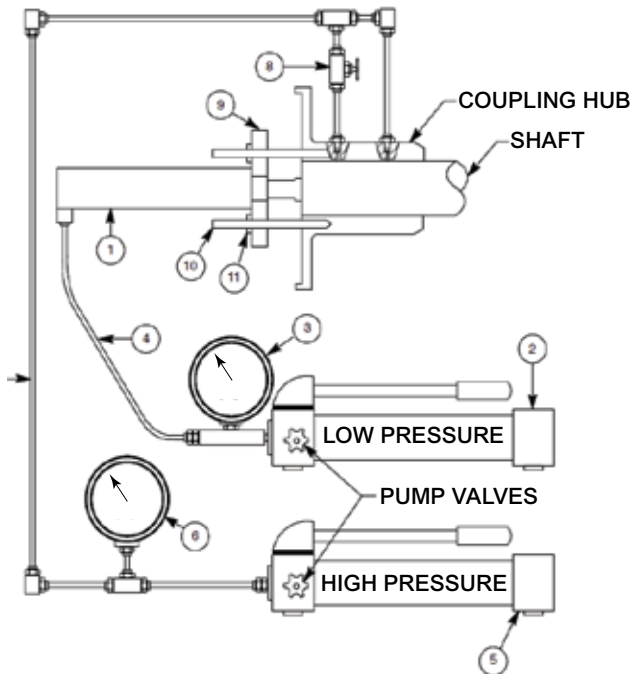

Figure 7 — BASIC TYPE 6 HUB REMOVAL EQUIPMENT
- a. Mount a hydraulic hub puller (see Figure 7) on the end of the hub with a pressure rod against the shaft end. Reference Table 3 for the hub puller bolt hole mounting pattern. The puller must have an axial travel equal to or greater than the hub-to-shaft bore length. Be sure to adequately support both the hub and puller assembly using metal cable slings.
- b. Mount the hydraulic expansion fittings to the hub and high-pressure hydraulic pump. Pressurize the hub-to-shaft interface until oil is oozing out between bore and shaft, or to the removal pressure called out in Table 4. Apply axial removal force at the same time as pressurizing the hub. Shut off pressure (item 8 of Figure 7) prior to the groove being exposed beyond the shaft end.